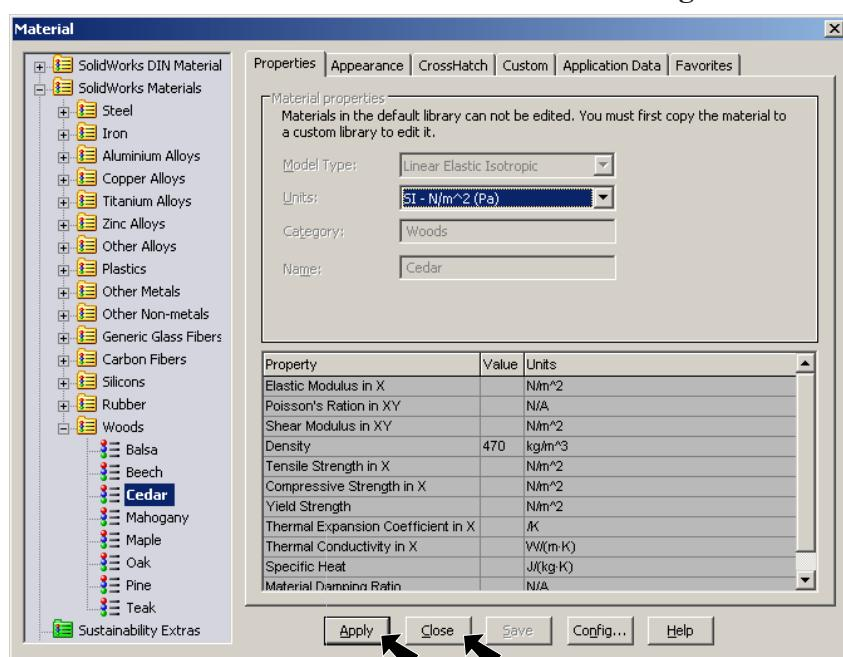

Fig. 35
Step 3. Expand Woods (click the +) in the material tree and select Cedar, click **Apply** and **Close**, Fig. 35.